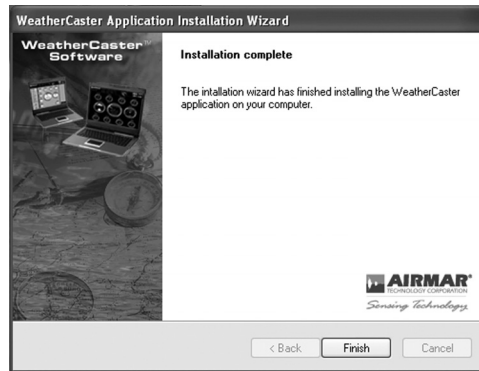

Figure 7. Installation Complete window
8. The Installation Complete window will appear when the WeatherCaster software has been successfully installed (see Figure 7). Click Finish. The Sensor Support CD Browser window will appear (see Figure 2).